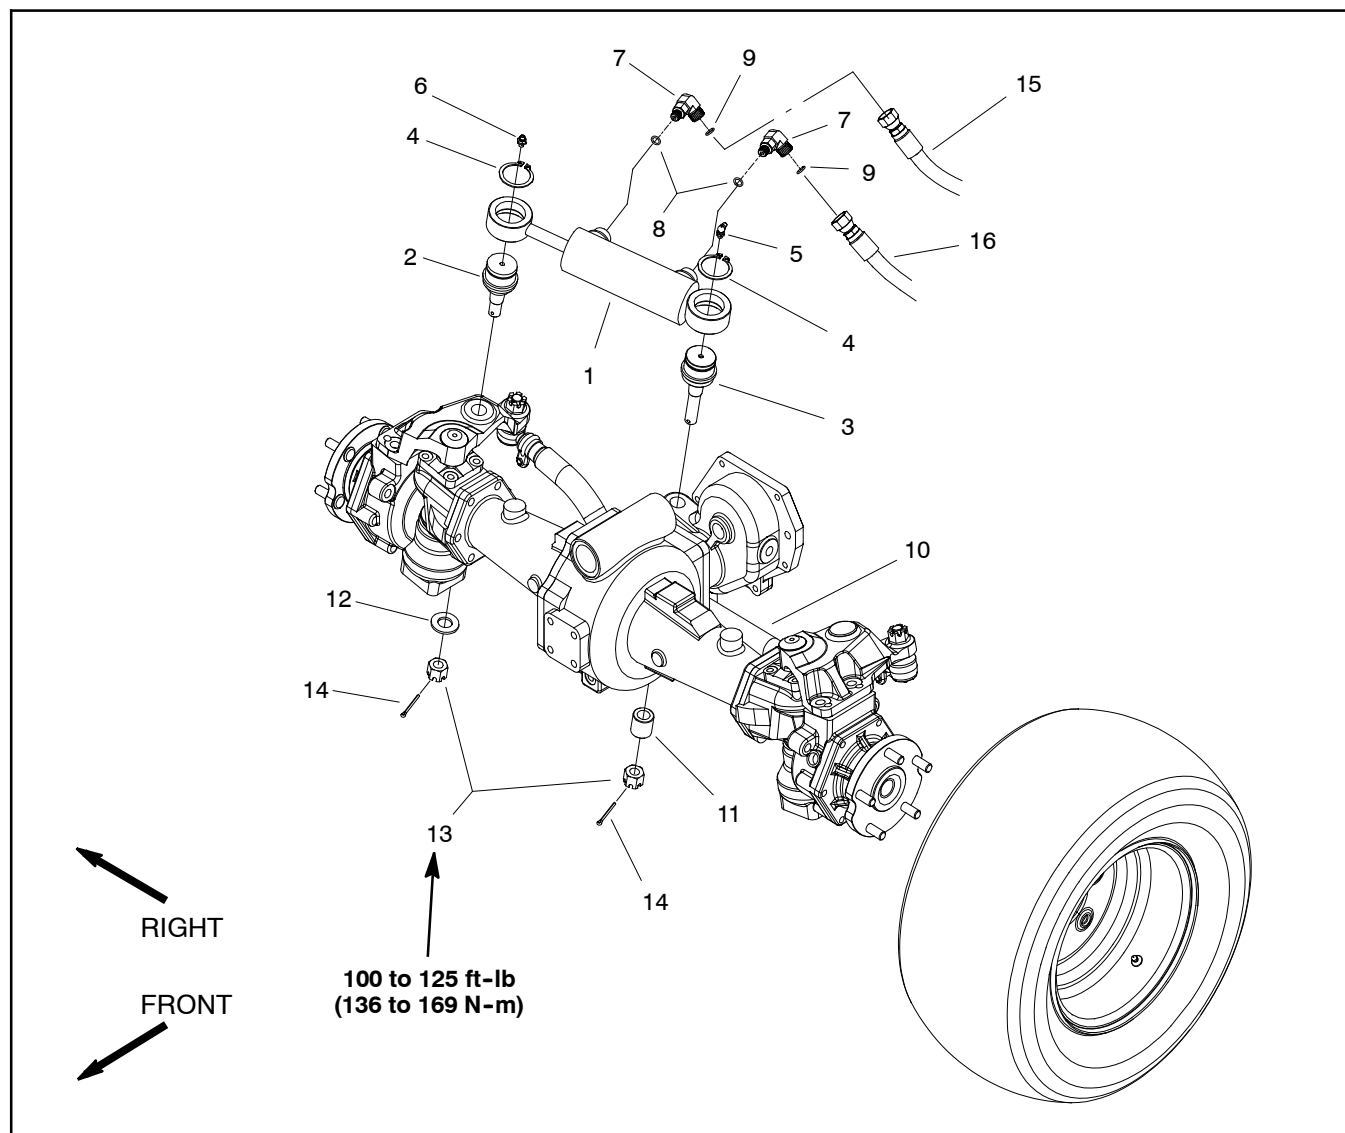

Figure 101
**Removal (Fig. 101)**
**Installation (Fig. 101)**